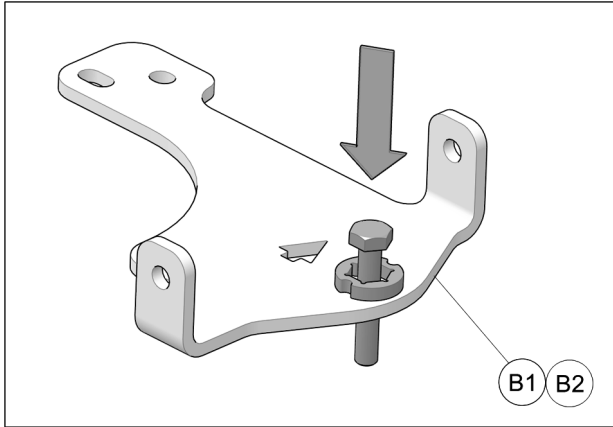

Fig. 4
4. Insert M10x80mm bolt in the rear anchor bracket (**B1-B2**) as shown in Fig. 4